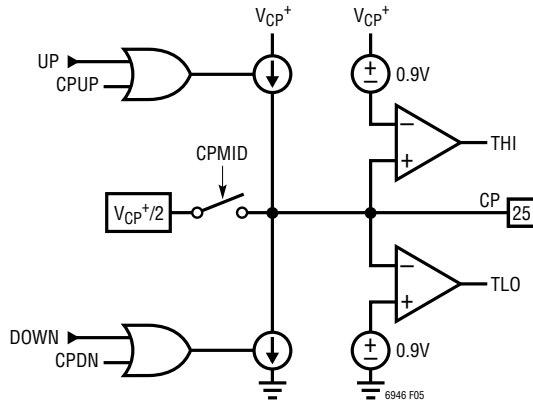

Figure 5. Simplified Charge Pump Schematic
The charge pump, controlled by the PFD, forces sink (DOWN) or source (UP) current pulses onto the CP pin, which should be connected to an appropriate loop filter. See Figure 5 for a simplified schematic of the charge pump.
The CPCHI and CPCLO bits found in register h0A enable the high and low voltage clamps, respectively. When CPCHI is enabled and the CP pin voltage exceeds approximately $V_{CP+} - 0.9V$, the THI status flag is set, and the charge pump sourcing current is disabled. Alternately, when CPCLO is enabled and the CP pin voltage is less than approximately $0.9V$, the TLO status flag is set, and the charge pump sinking current is disabled. See Figure 5 for a simplified schematic.